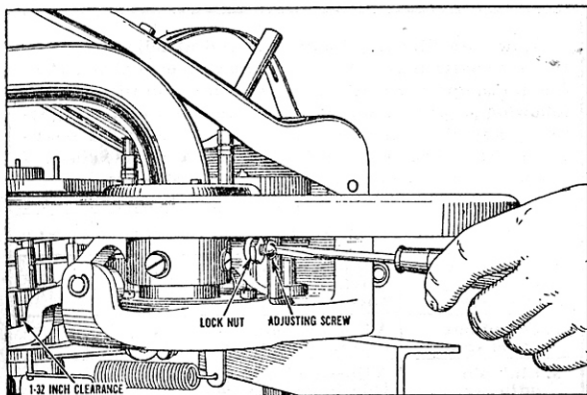

Fig. 2—Adjusting Sound Box Lift Lever
Loosen the lock nut and adjust the sound box lift lever adjusting screw as shown in Fig. 2 until there is a clearance of approximately  $\frac{1}{32}$ " between the under side of the taper tube arm casting and the top of the sound box lift lever as shown. This clearance can be checked by placing a thin piece of cardboard between the two points and observing whether or not there is a dragging on the cardboard when the tone arm is moved toward the center of the record. *This clearance is highly important and will affect other conditions of the mechanism if not properly adjusted.*
**2. EXCESSIVE WEAR ON RECORDS**—If excessive wear on the records is noted, the same adjustments as described in subject 1 above should be made. It may be possible that the needle will move into the record groove after striking the smooth outside rim, but will cause excessive wear on the record due to a slight contact between the two points shown in Fig. 2 where the  $\frac{1}{32}$ " clearance should exist.
- b. If the condition is still not corrected, particularly if there seems to be a sluggish action of the return of the tone arm, remove the sound box lift lever spring shown in Fig. 2, and increase its tension by shortening the straight section of the spring, bending it nearer the coiled section.